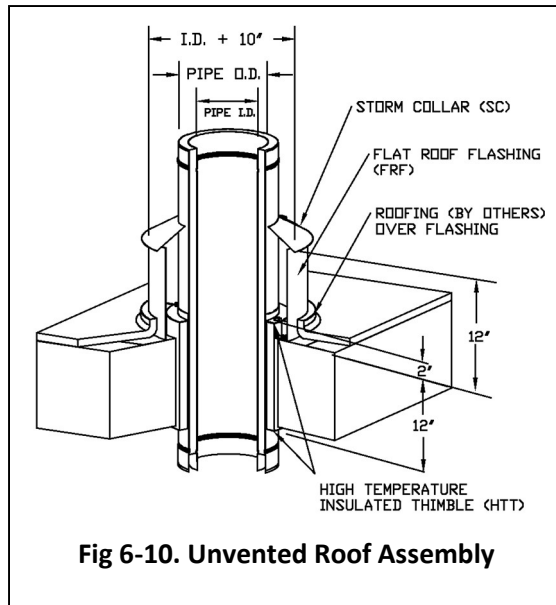

Fig 6-10. Unvented Roof Assembly
UL has determined the Roof Thimble (HTT) alone, without ventilation, provides a safe installation through a combustible roof for Model DWAF applications with 1000°F flue gases or less. This also applies to enclosed Special Gas Vents, Type B Vents, and Type L Vents. In this manner, the Flat Roof Flashing (FRF) in conjunction with the standard Storm Collar (SC) is used. (See Fig 6-10).